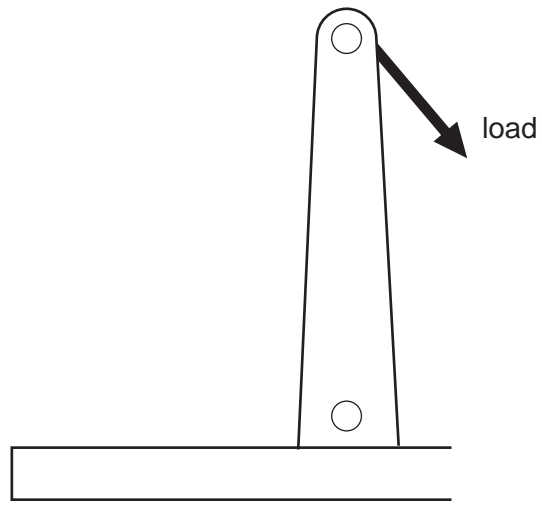

Fig. 5
- (ii) During the building of this catapult the student decided to test the deflection upright. A dial gauge was used to measure the deflection. Add sketches and notes to Fig. 5 to show how the gauge would be set up to measure the deflection.